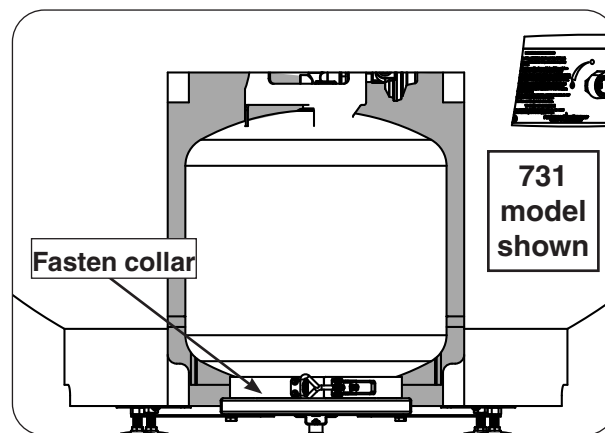
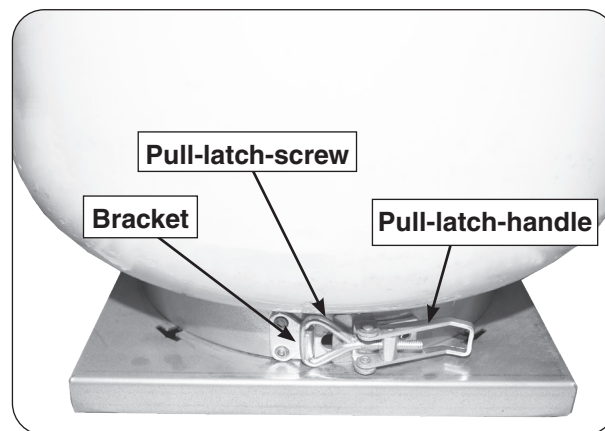

Fig. 29-2 L.P. cylinder placement
Fig. 29-3 Secure L.P. cylinder
3. The propane cylinder (not included) is to be located inside the base of the unit, via the storage door opening. Insert the cylinder into the tank holder tray and secure it. See Fig. 29-2, Fig. 29-3, and the details below: